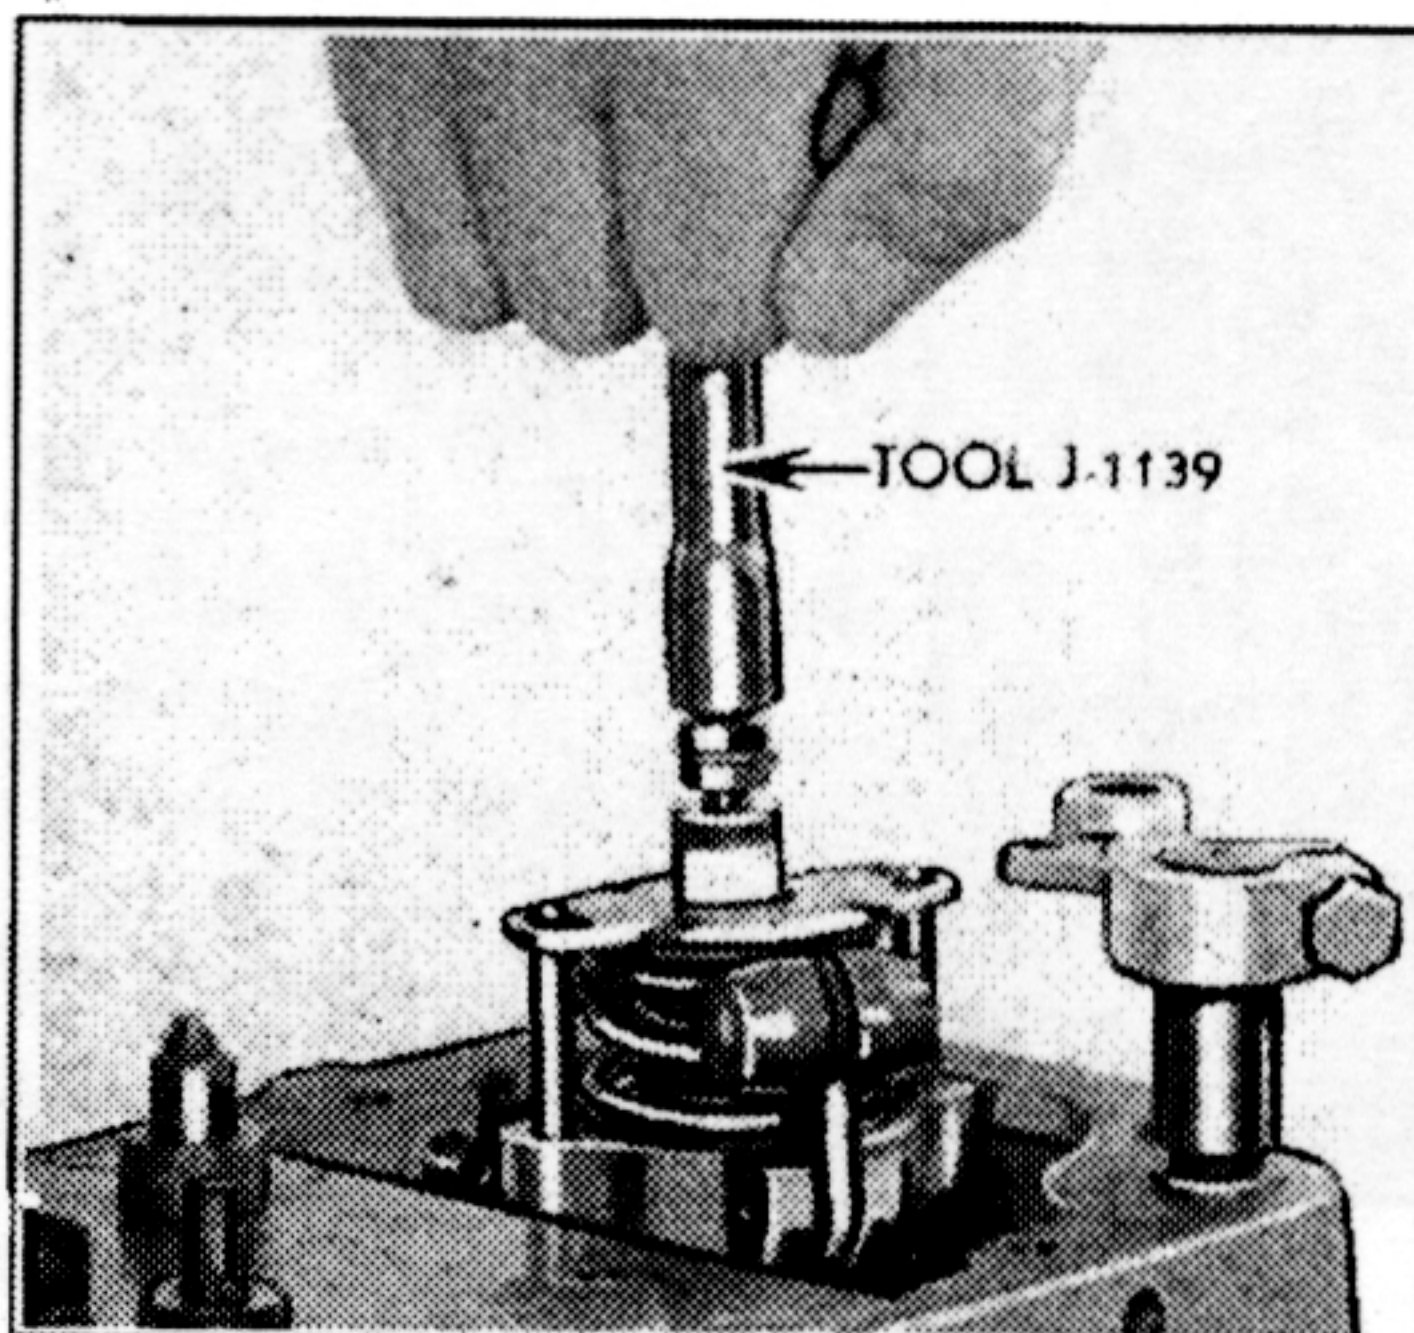

Fig. 19. Governor Removal
5. Remove governor to case attaching screws, and remove governor. (Tool J-1139 will come in handy at this point.) See Fig. 19.